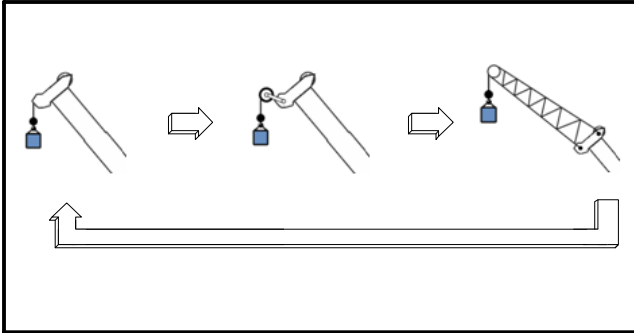

Figure 1-92
- b. Scroll through the available lifting points until the desired lifting point, for the winch selected, is displayed. Refer to Figure 1-92.